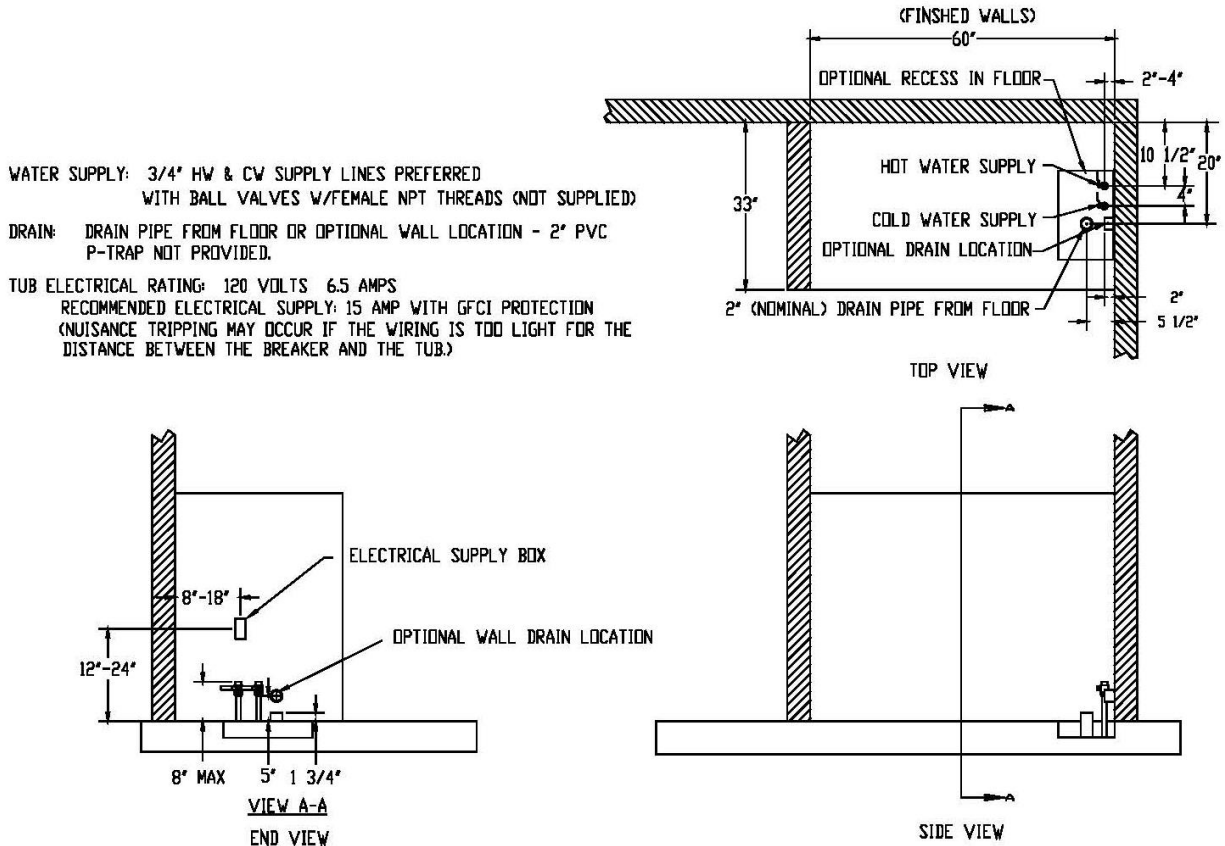
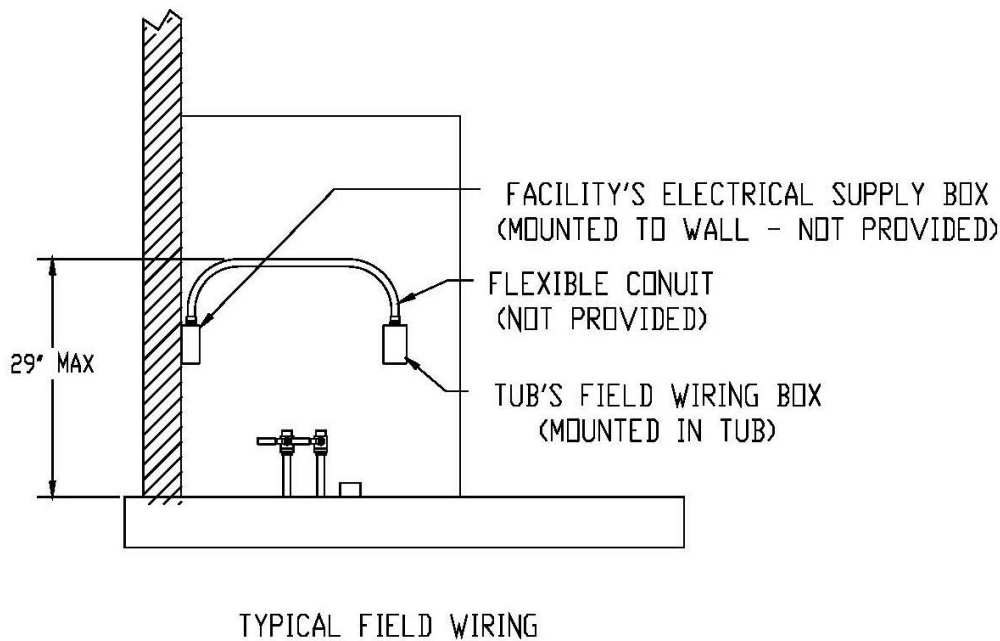

Figure 4
Figure 11
3/4" supply lines with on/off valves with 3/4" NPT female threads. We recommend 3/4" ball valve with 3/4" NPT female ports. (Valves supplied by others.) See figure 4, 5 & 6 for recommended locations.
See Figure 4, 5 & 6 for the location of a small junction box from which the power supply will come. It will be connected via flex conduit to the field wiring box of the tub. It is located inside the side access door of the tub below the larger electrical box. See figure 11.
5. Once the tub is in place, anchor the tub with a lag screw and washer through the provided anchor hole as shown in figure 11. **DO NOT OVER-TIGHTEN THE LAG SCREW.**